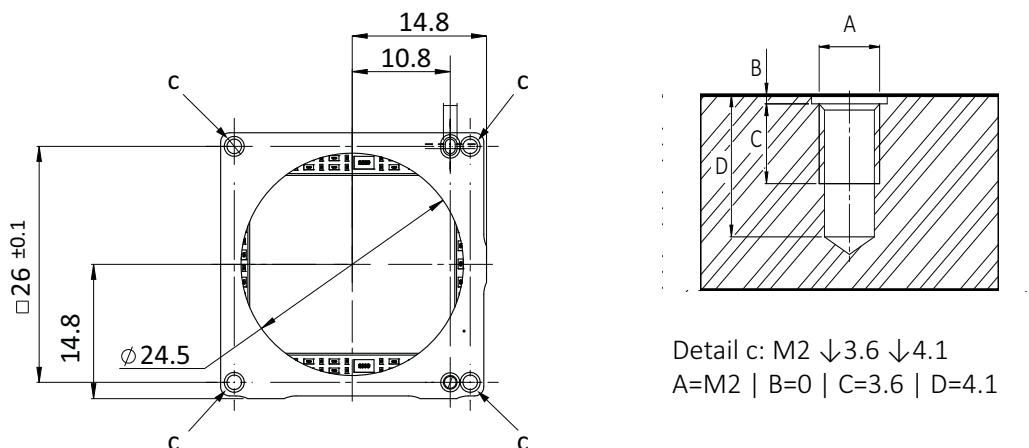

Figure 104: Mounting threads Alvium Frame
As shown in Figure 104, mount the camera to the base using suitable M2 screws for the 4 mounting threads: At 0.4 Nm maximum torque for a thread engagement (C) of 3.6 mm between screws and mounting threads.